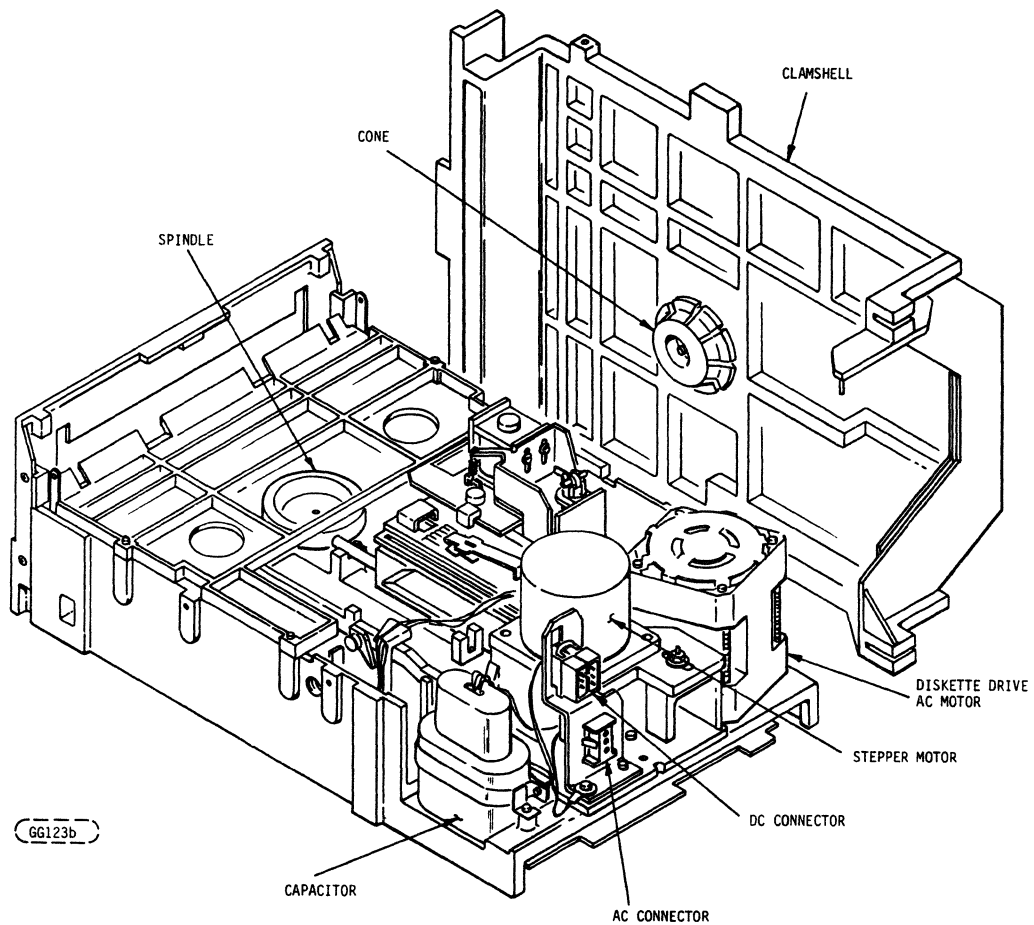

FIGURE 6-9. POSITIONING AND HEAD-LOAD MECHANISM, CLAMSHELL COVER RAISED.
- i. If not in alignment, slightly loosen the stepper-motor mounting screws, (see Figure 6-9), slowly rotate the stepper motor until the amplitudes of both lobes are the same, and tighten the hardware. If there is insufficient adjustment range of the motor, perform the following:
Refer to Figures 6-9 and 6-10.